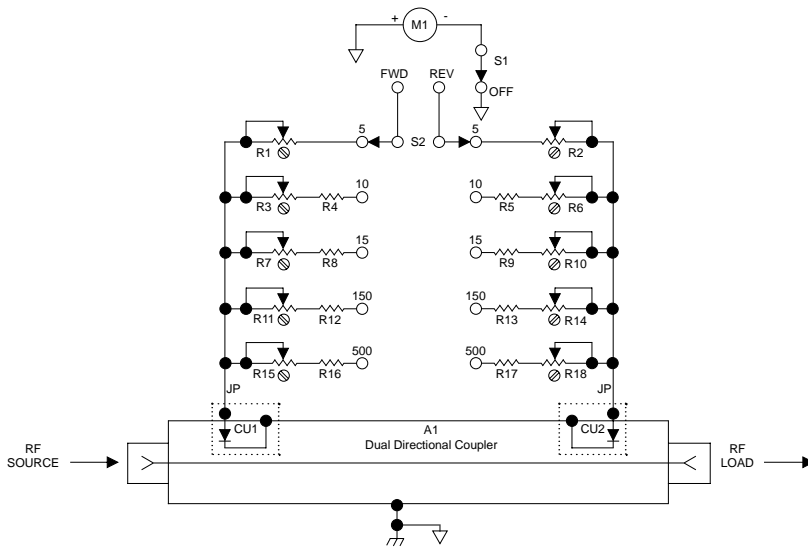
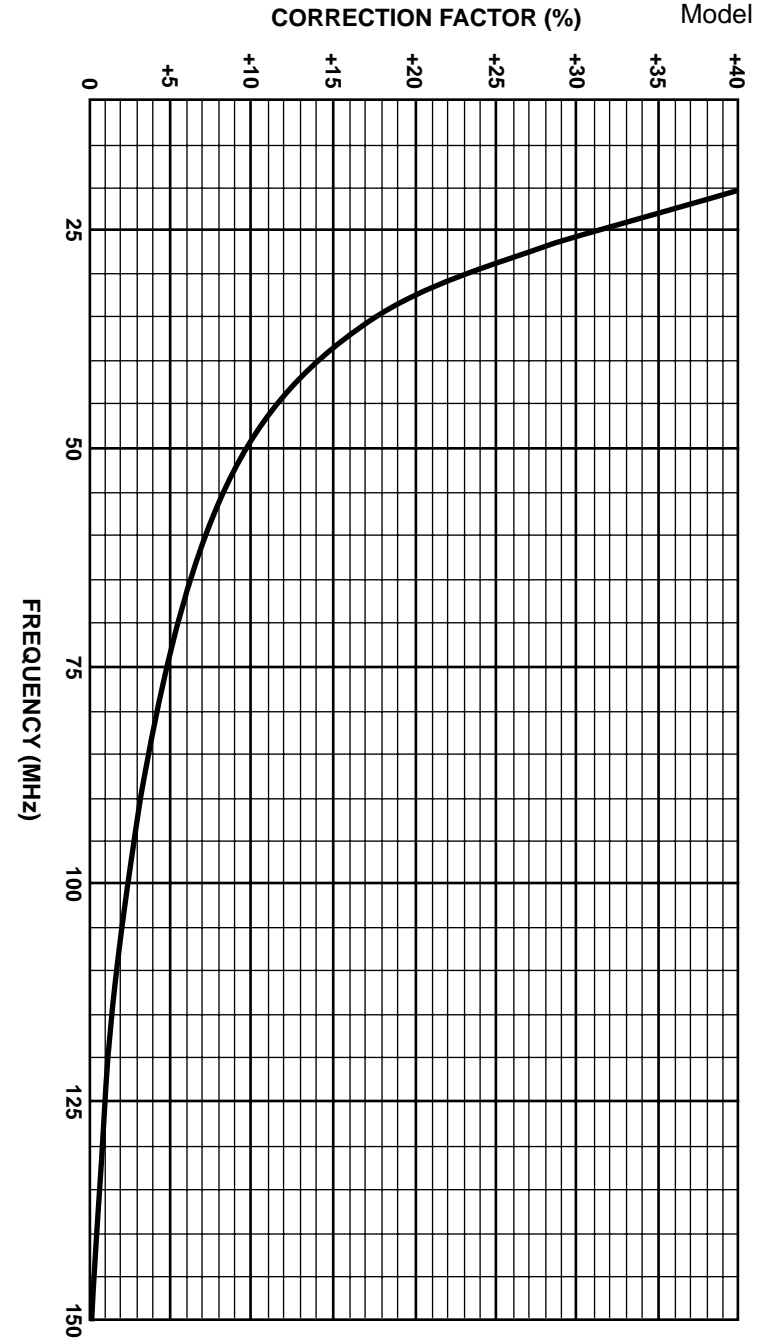

Figure 4-1: Model 44A/AP RF Wattmeter Schematic
Figure 7-1: Model 44A/AP RF Wattmeter Calibration Chart for Frequencies below 150 MHz
4.01 The Model 44A/AP Wattmeter is made up of two major sections. Refer to the schematic diagram in Figure 4-1 for this description.
- 6.04** Adjustments to calibration should be performed by Telewave, or other RF calibration laboratory. Calibration should be made at a frequency of 250 MHz when possible. If it is necessary to perform the calibration below 150 MHz, consult Figure 7-1 for the correction factor. The calibration potentiometers are located on a PC assembly inside the instrument. Refer to Figure 4-1.
7.02 Figure 7-1 (right) shows a watt meter correction factor for power measurements below 150 MHz. For example: